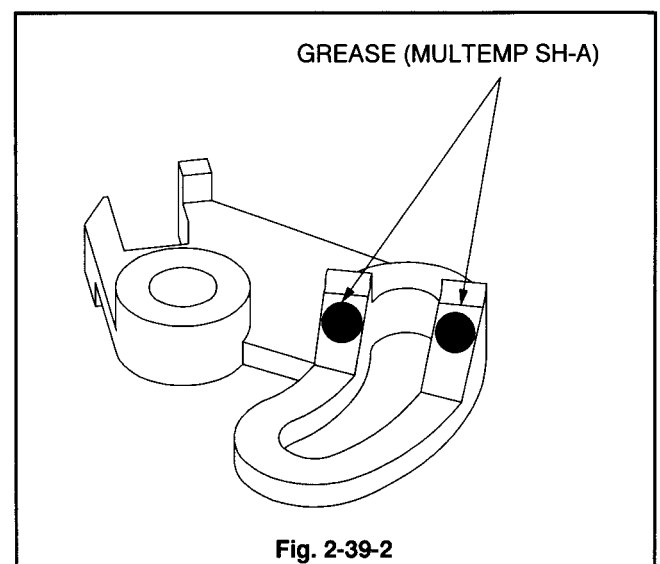

Fig. 2-39-2
- 1 Apply GREASE (MULTEMP SH-A) [859D055O80] to the area of the new SHIFT LEVER shown in Fig. 2-39-2.